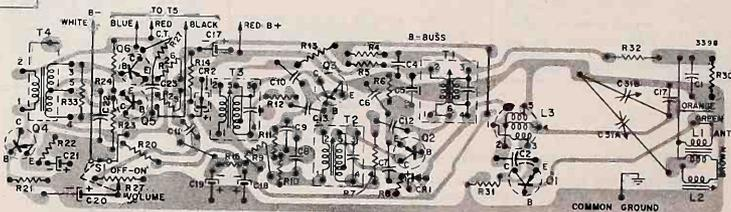
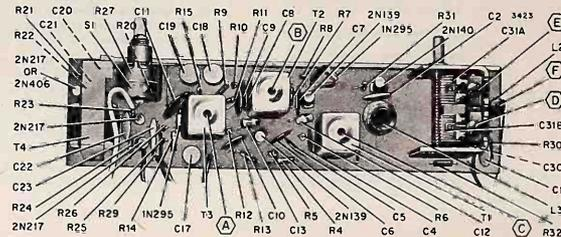

Figure 3. View of Printed Wiring Board. NOTE: Gray area represents printed wiring; black symbols and lines represent components and wiring on opposite side.
Figure 4. Top View of Chassis Showing Parts Location.
To simplify circuit tracing, as well as locating and identifying individual circuit components, refer to figures 3 and 4. Figure 4 is a photograph of the circuit components as they appear in their exact physical location. Figure 3 refers to the foil side of the printed wiring board. Schematic symbols illustrate what appears in approximately the same position on the reverse side of the board. Use
figures 3 and 4 with the schematic diagram for circuit tracing as well as voltage and resistance readings.
- Refer to "figure 4" for location of alignment points.